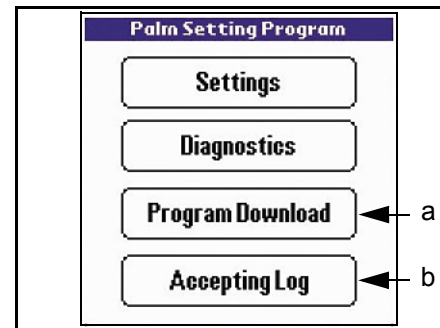

Figure 15 PSP04 Main Menu Screen
1. Select the 'Accepting Log' Screen Button from the PSP04 Main Menu (See Figure 15 b).
1. Select the 'Program Download' Screen Button from the PSP04 Main Menu (See Figure 15 a on page 17).